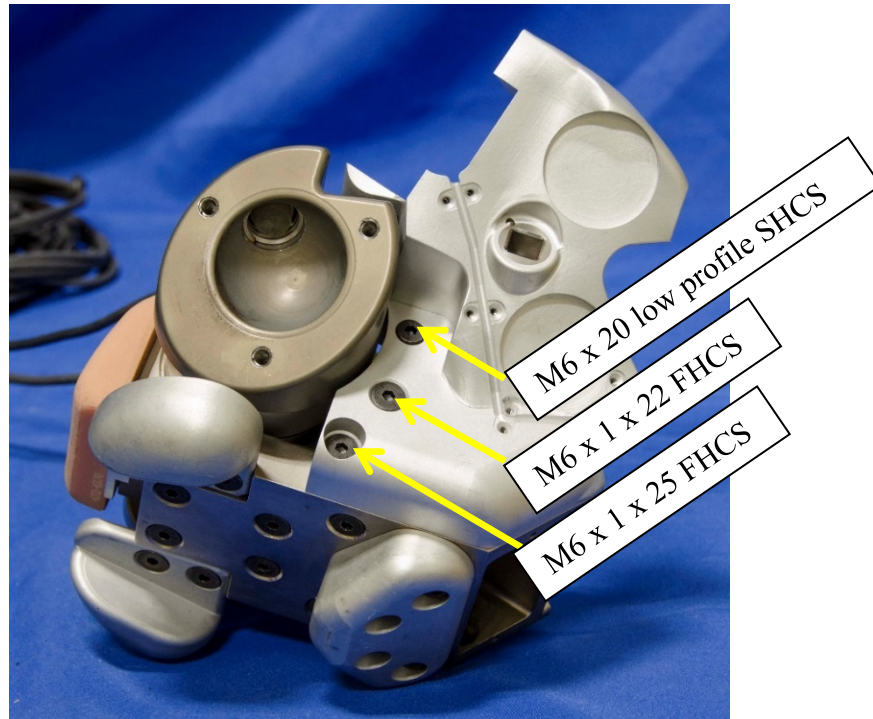
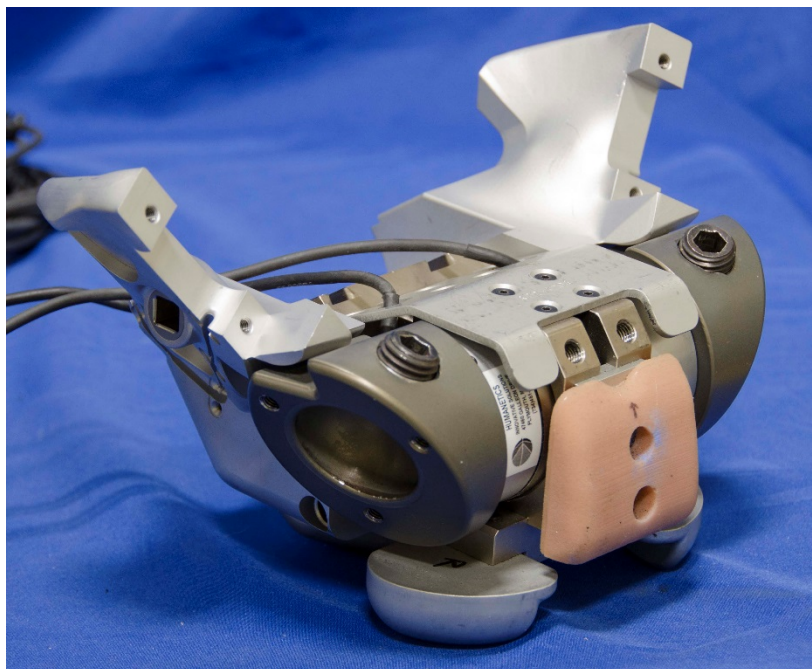

Figure 10-21. Attach screws through pelvis iliac wings into pelvis base module
Figure 10-22. Iliac wings attached to pelvis base module
- 10.2.2.14 Attach the Left (472-4382-1) and Right (472-4382-2) Pelvis Wings to the left and right sides of the pelvis base module using one M6 x 20 low profile SHCS, one M6 x 1 x 22 FHCS, and one M6 x 1 x 25 FHCS on each side (Figure 10-21 and Figure 10-22).